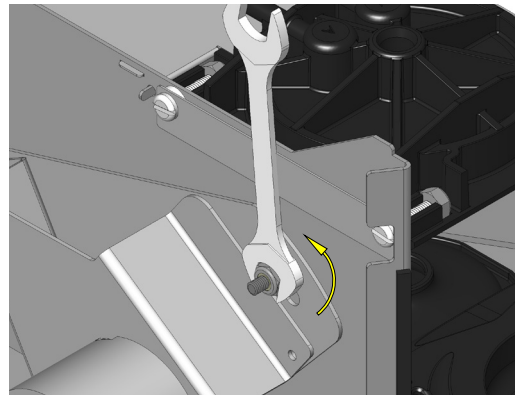

FIG 21-3 Remove mounting nuts.
6. Remove 2 nuts from motor mounting bracket. FIG 21.3.